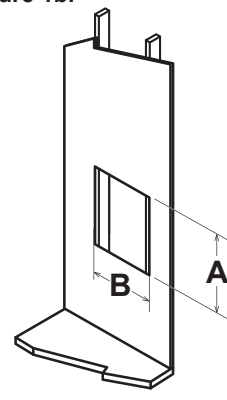

Figure 2a. 2"x4" Frame Construction.
3. Fabricate a support frame structure from suitable wood pieces as shown in option **Figure 2a (2"x4" Frame Construction)** or **2b (Plywood Sheet Construction)**. Use a generous quantity of wood screws and glue to hold the support frame structure together as shown. Support frame width (D) should fit snugly between wall studs. Support frame height (E) should be from 24-32" (61-81cm) high or more, depending on material and stiffness of wall studs. For support frame structure in **Figure 2a**, locate top cross member (F) to position in line with top fastener holes when rail is located at the height (H). Lower cross members (G) should be spaced 8" (20cm) from top cross member.